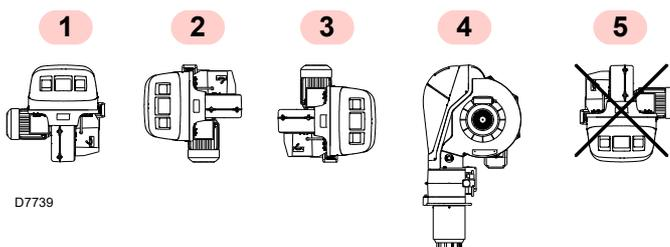

Fig. 8
- The burner is designed to work only in positions 1, 2, 3 and 4 (Fig. 8).